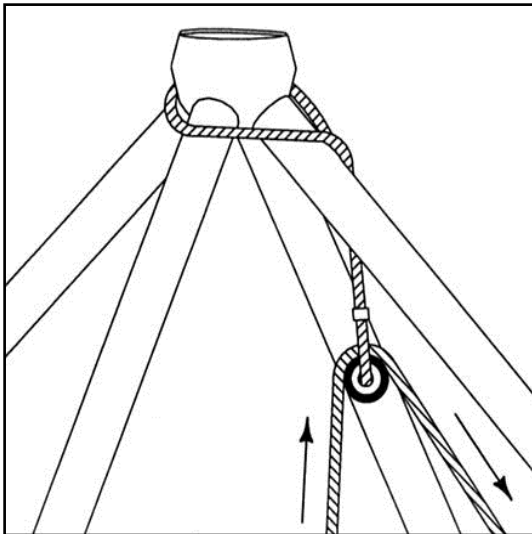
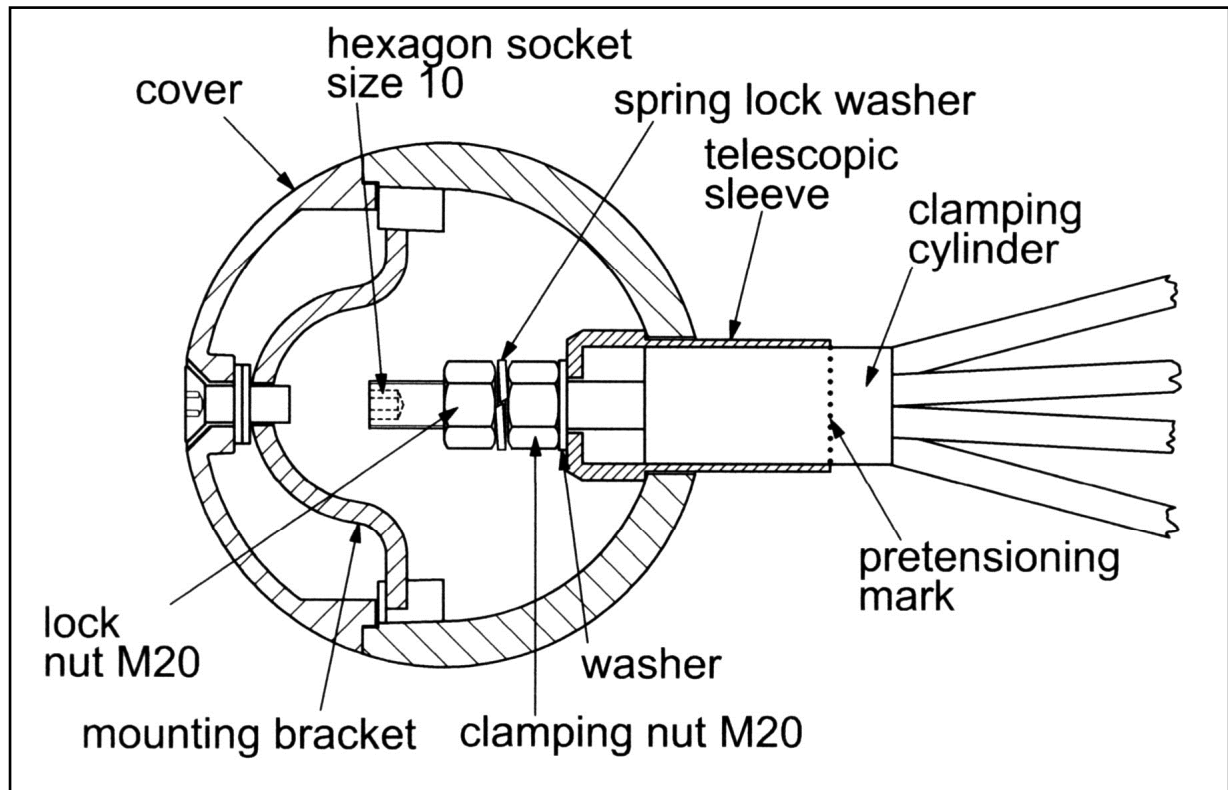

Figure 5
Figure 7
The marked vertex of the net (**K1**) is to be lifted, using the rope pulley, by means of the knotted rope as per **Figure 5** and fastened onto **connection joint K1** using the clamping nut M20, SW32. The clamping systems of the four connection joint points **K22** on **level 2** then follow. Push the clamping cylinder with the bolt M20 into the telescopic sleeve (**Figure 7**) and first of all, tighten it with the clamping nuts by only five turns to make for easier insertion into the spheres.
Now connect the tension points **K20** and **K23** at **level 1** in the same way like **K22**. Push the clamping cylinder with the bolt M20 into the telescopic sleeve (**Figure 7**) and first of all, tighten it with the clamping nuts by only five turns to make for easier insertion into the spheres.
The net **begins** to be tensioned on **joint K22** on **level 2** and then takes place, via the clamping nuts, using the SW32 special socket spanner which is supplied. It must be **tensioned up to the pretensioning mark (fig. 7)**. Tension is then created on joints **K20** and **K23** on **level 1** also to the pretensioning mark. The net finally has a good **uniform strong** tension.
After the tensioning the clamping nuts at all joints in level 1 and 2 (**K20**, **K22** and **K23**) are to lock with the supplied locking nut M20 SW32 including the spring lock washer. **When you tightened the lock nut, you can hold up the M20 bolt with an Allen key size 10 (figure 7).**
Finally, the hollow spheres, which are still open, are to be sealed using the specially prepared sealing covers via a mounting bracket (**Figure 7**). Please fix all the covers that our logo is readable. Thank you.
- The first re-tensioning of the equipment must be carried out after it has been used for between 1 and 2 weeks. Re-tensioning is done using the clamping nuts M20 which are situated in the hollow spheres of the level 1 and 2 (**K20, K22 and K23**). After removing the cover, using a size 10 Allen key, the locking nut M20 SW32 is to loosen at first. The re-tensioning is carried out on clamping nut SW 32 **beyond the pretensioning mark**. All connection joints of levels 1 and 2 should be re-tensioned in a uniform fashion. After being tensioned, lock the clamping nuts with the locking nuts which you are removed beforehand (**Figure 7**). **Please note the right position of the spring lock washer between the two nuts. When you tightened the lock nut, you can hold up the M20 bolt with an Allen key size 10 (figure 7).** Now the hollow spheres are locked with the prepared ball covers via the retaining bolt in the cover. Please fix all the covers that our logo is readable. Thank you.
Please note, that at all clamping points **the ropes are not distorted** when you tensioning the net. If necessary hold it firm with a practical tool. (**figure 7**).